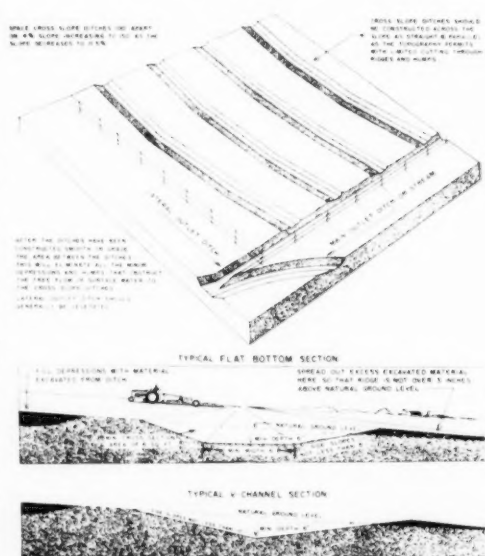

FIG. 4
The "cross slope ditch system" (drainage-type terrace) (Fig. 4) resembles terracing in that the drainage ditches are constructed around the slope on a uniform grade according to the lay of the land. Much of the development work on this type of surface drainage has been and is being done by A. J. Wojta of the University of Wisconsin. A paper by Mr. Wojta, entitled "The Development and Study of the Channel Type Terrace", was published in *AGRICULTURAL ENGINEERING* for May, 1950.
It has been found that for ease of farming operations these ditches should be constructed with very gentle side slopes. Fig. 4 gives some recommendations.
**Chilling at 20 F.** The curves in Fig. 4 are individual body temperature curves for 8 pigs of test 27, farrowed in a 20 F ambient temperature without supplementary heat. Four pigs
Fig. 4. Individual body temperatures of 8 pigs of test 27 farrowed in a 20 F room without heat. Pigs numbered 4, 6, 9 and 12 died within 5 hr after birth, but the remaining pigs were revived with radiant energy applied 1 to 2 hr after birth.